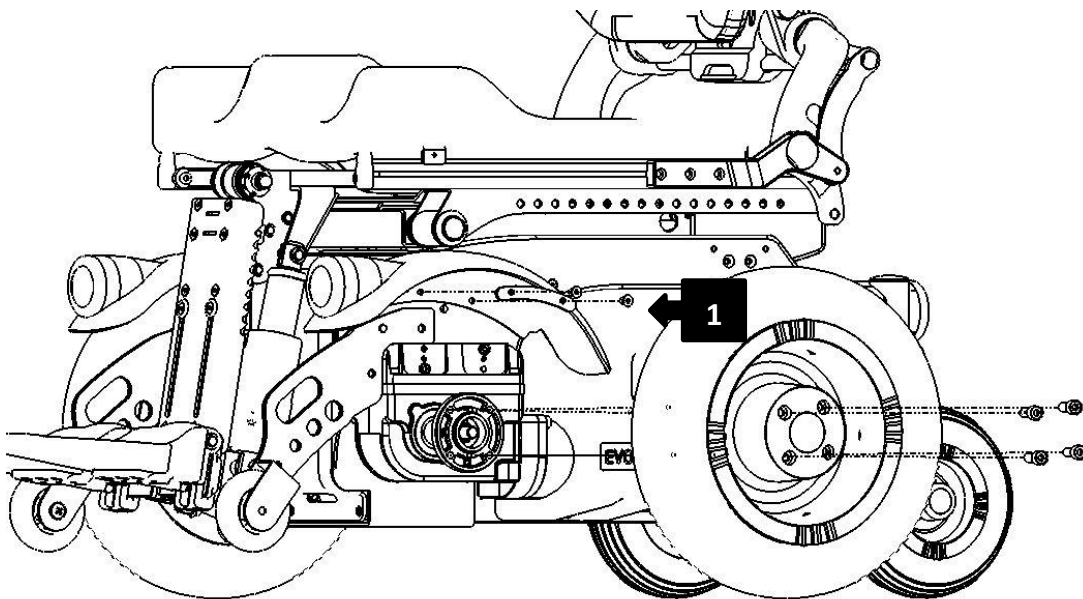

Figure 61
Remove the traction wheel as explained in section 3.4, then remove the screws (1) shown in Figure 61, unplug the cable and take away the plate and the fender in this order.